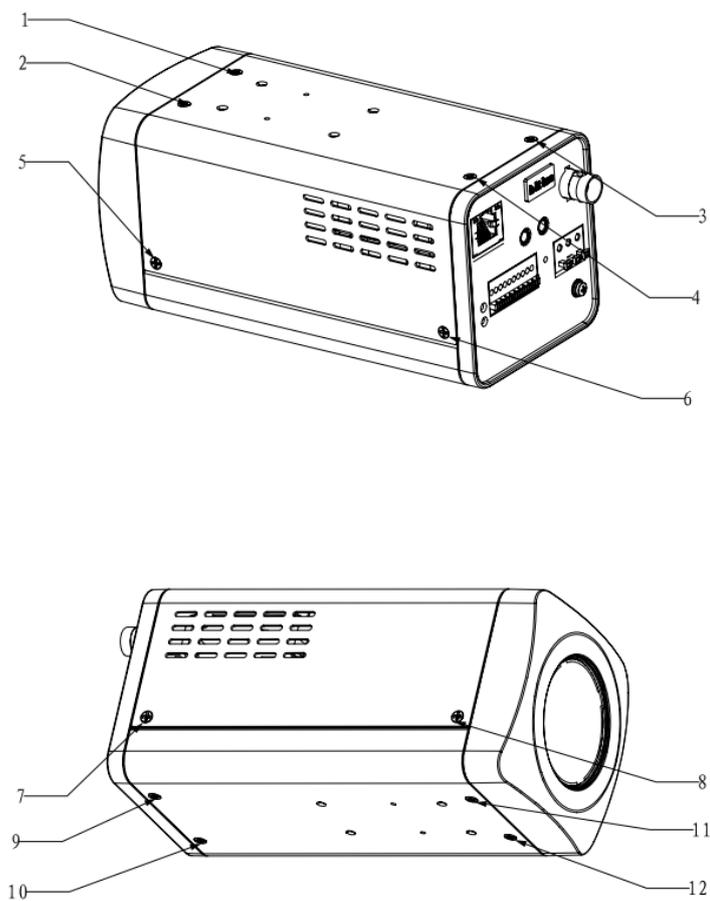

Figure 1-8
a) Refer to Figure 1-8 to remove the screws.